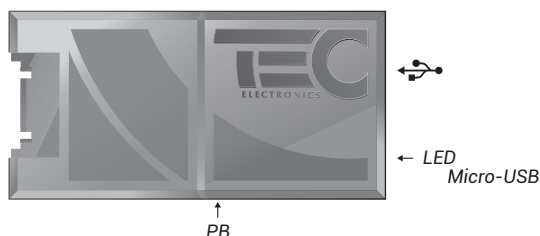

Figure 1. CANTEC-2XL
To set up unit programming button is used (PB), LED, and micro-USB connector, in the units enclosure (figure 1).